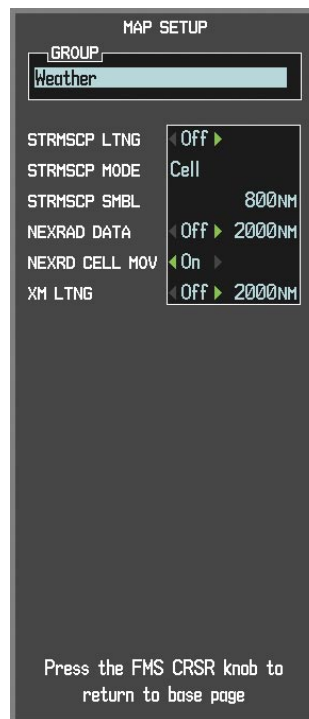

Figure 6-39 Map Setup Menu
- 3) Turn the small **FMS** Knob to display the group selection window. Turn the small **FMS** Knob to select 'Weather' (Figure 6-39), and press the **ENT** Key.
The following options are available (Figure 6-39):